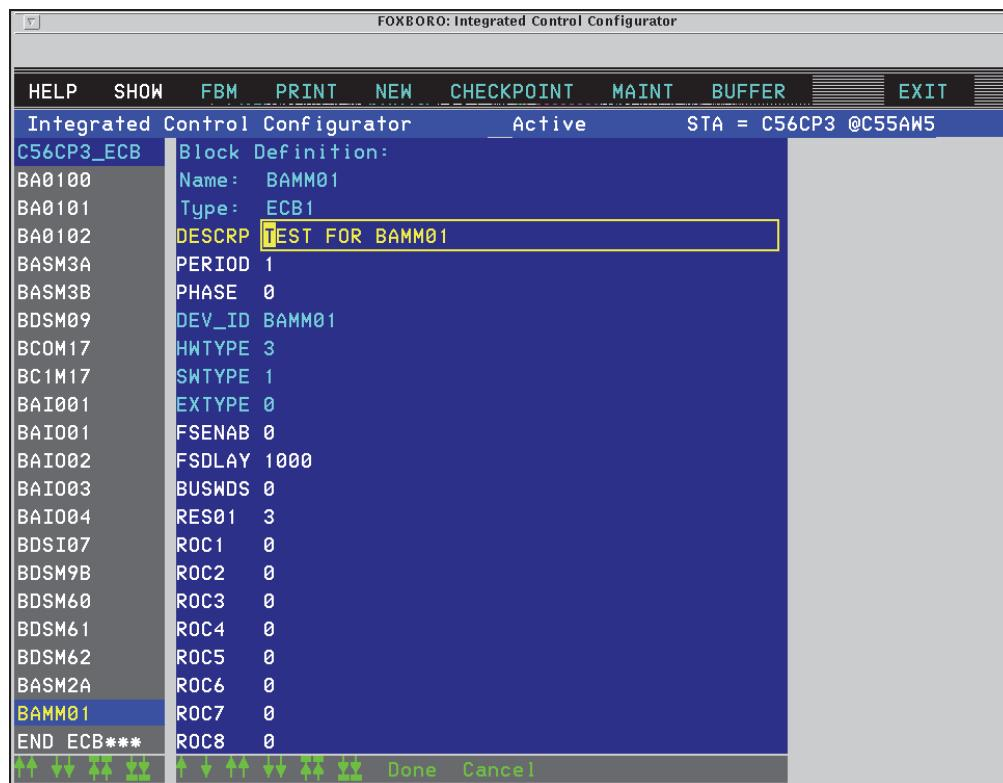

Figure 3-2. Typical Editing Display for BAMM01 (FBM03) ECB
4. If required, edit the Bxxxx ECB(s) if the default parameters provided are not satisfactory. As examples, Figure 3-2 through Figure 3-8 show typical editing displays for the BAMM01, BASM03, BCOM17, BDSI07, BDSM09, BDSO10 and BSEM01 ECBs. The HWTYPE and SWTYPE ECB parameters for the various types of DCS Fieldbus Modules are shown in Appendix C “DCS Fieldbus Module Control Schemes”. For information on other ECB parameters, refer to *Integrated Control Block Descriptions* (B0193AX).
4. If required, edit the newly created Bxxxx ECB(s) if the default parameters provided are not satisfactory. As examples, Figure 3-2 through Figure 3-8 show typical editing displays for the BAMM01, BASM03, BCOM17, BDSI07, BDSM09, and BSEM01 ECBs. The HWTYPE and SWTYPE ECB parameters for the various types of DCS Fieldbus Modules are shown in Appendix C “DCS Fieldbus Module Control Schemes”. For information on other ECB parameters, refer to *Integrated Control Block Descriptions* (B0193AX).